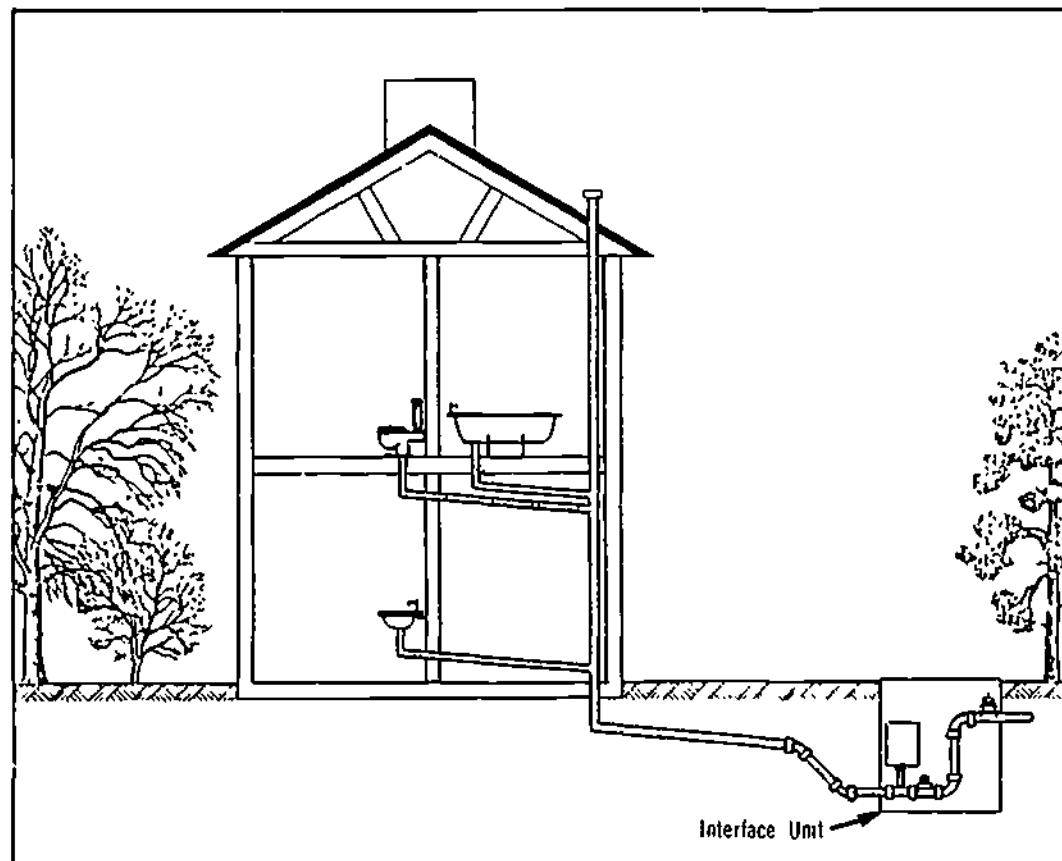

Figure 37-34. The Interface Unit
- The interface unit*, to collect sewage from homes or other sources (Figure 37-34).
106. At each source of sewage entering the vacuum system, an interface unit is installed on-line between the gravity service connection and the vacuum piping network, allowing sewage into the vacuum main on demand. (See Figure 37-34.)